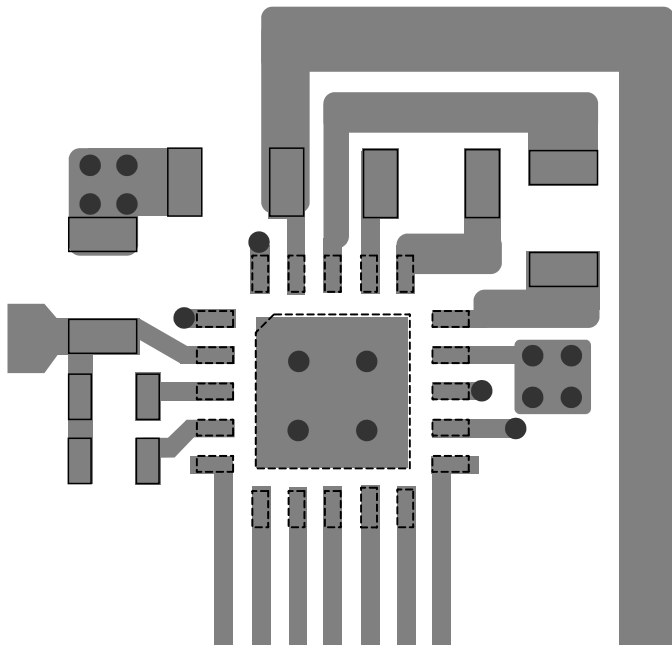

Figure 3 — Layer 1
- Figure 3 shows the pads on layer 1 that should be connected with vias to layer 2. C_{IN'}, C_{OUT} and the GND pin all use vias to connect to the ground plane.